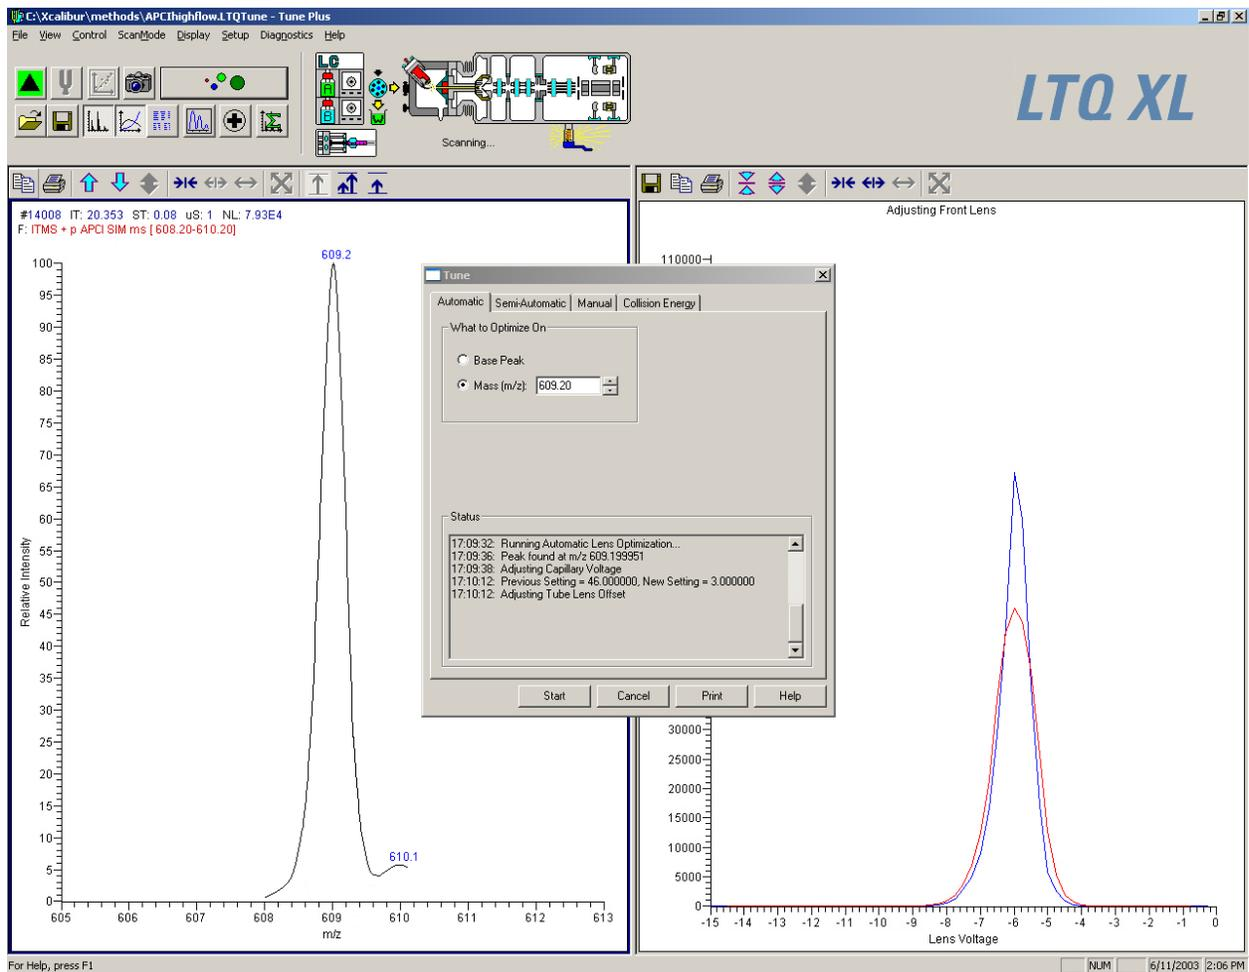

Figure 61. Tune Plus window with the Tune dialog box, showing the Automatic tuning page
7. Observe the Tune Plus window and the Tune dialog box. While automatic tuning is in progress, the LTQ XL MS detector displays various tests in the Spectrum and Graph views in the Tune Plus window and displays various messages in the Status group box in the Tune dialog box. Your Tune Plus window should now look similar to the one shown in Figure 61.